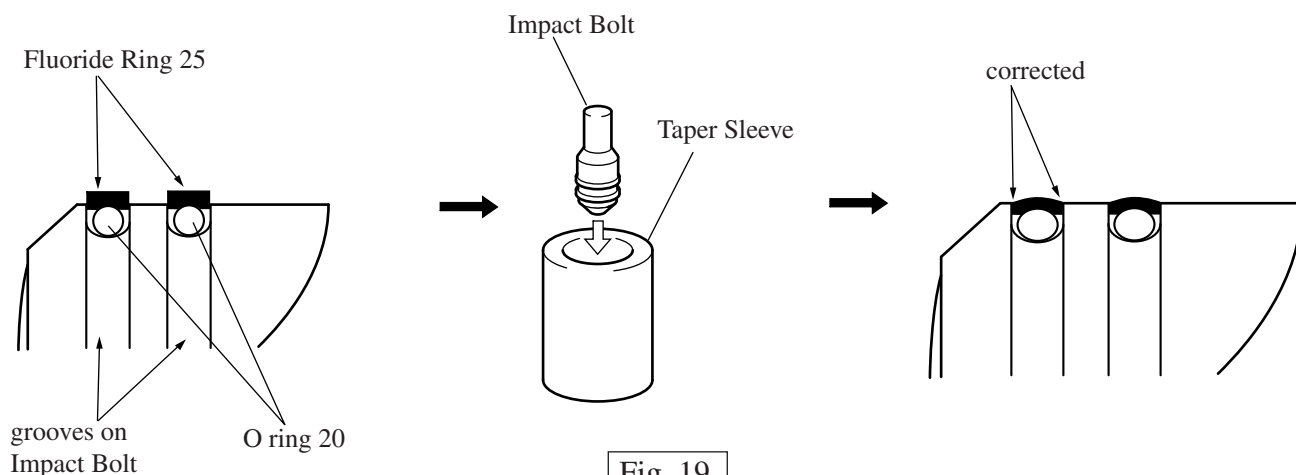

Fig. 19
1. After installing fluoride ring 20 on impact bolt, the ring comes stretched and its edge come protruding from the groove. (see Fig. 19)
2. In order to correct the deformation, insert impact bolt with the fluoride ring 20 into the repairing tool, Taper sleeve (No.1R259) and leave it in the repairing tool about 10 seconds. (see Fig. 19)